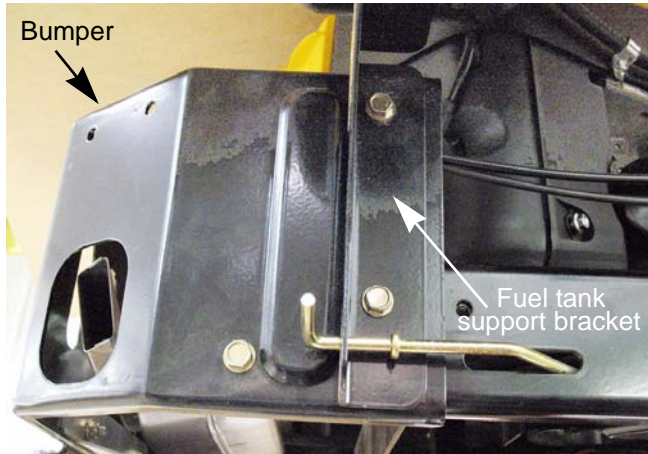

Figure 2.1
1. Remove the six nuts and bolts (three on each side) that hold the rear bumper in place using a pair of 1/2" wrenches. See Figure 2.1.